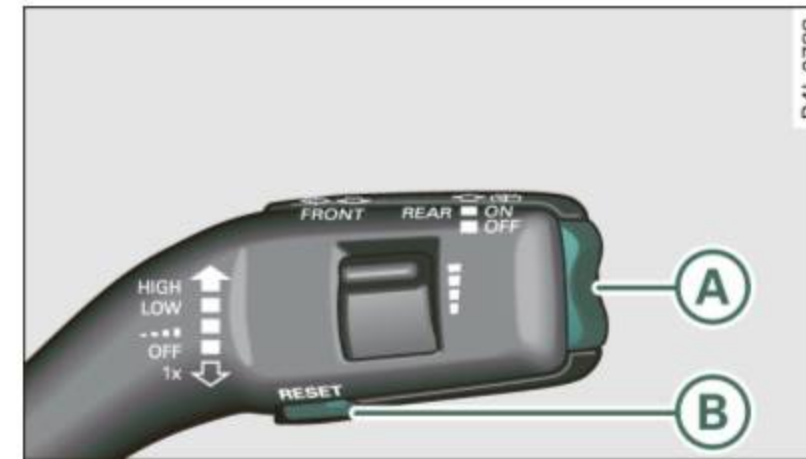

Fig. 23 Wiper lever: Trip computer controls
- Press the function selector switch in the wiper lever **A** ⇒ fig. 23 up or down to change the set value. Values run up or down in steps of 6.2 mph (10 km/h).
- Press the reset button in the wiper lever **B** ⇒ *page 29*, fig. 23 until the crossed out speed warning symbol for warning threshold 2 appears in the display.